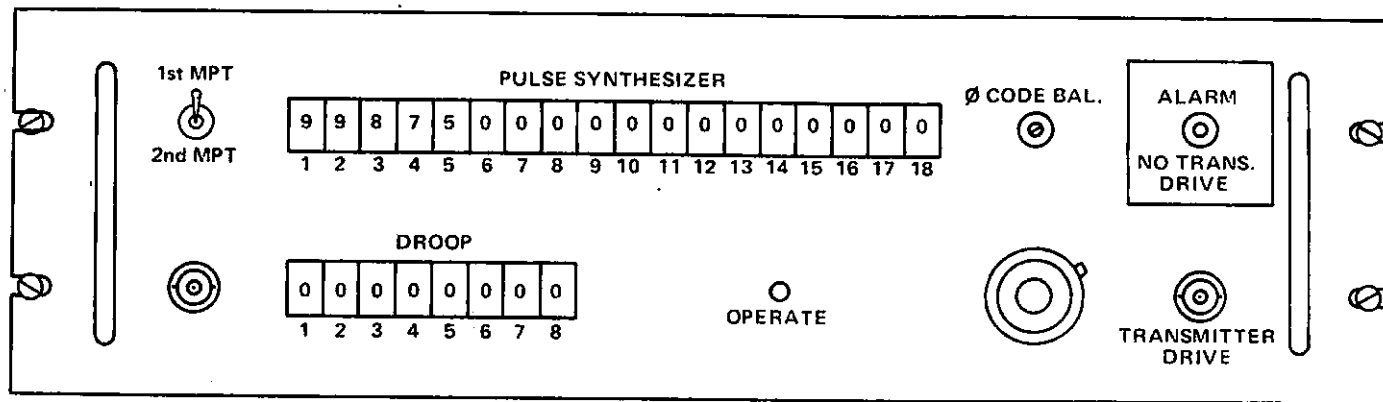

Figure 1
4. Remove rack mount screws from front panel of the PGEN unit. (See Figure 1).